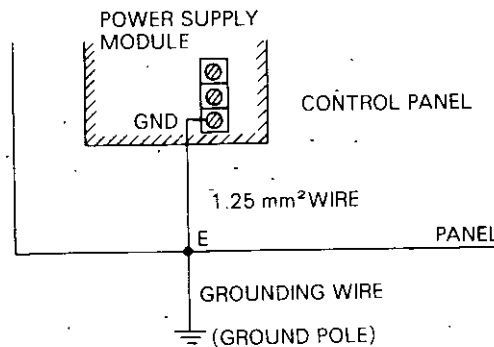

Fig. 8.25 Grounding Wire
- The GND terminal of the power supply module should be connected to the control panel housing, as shown in Fig. 8.25 at E, and connecting point E should be connected to a ground pole.